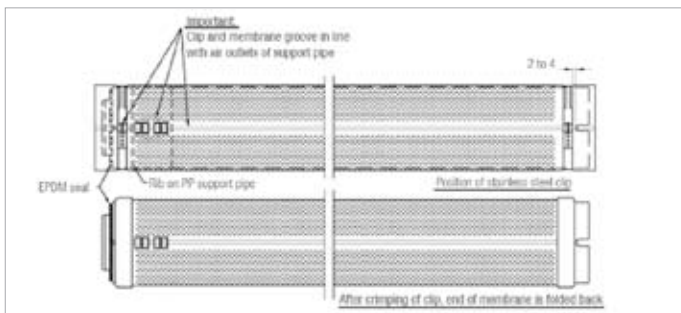

Figure 15: Positioning of stainless steel single ear clip on pipe aerator
3. Clean the PP support pipe. Insert a new membrane onto the PP support pipe and align it in such a way that only non-perforated membrane section is positioned over the air outlet openings. To secure the membrane firmly on the PP support pipe, use only stainless steel single-ear clips that are smooth on the inside. Worm-drive clips must not be used. The single-ear clips must be aligned in such a way that the clip ear is positioned exactly over the membrane groove. One single-ear clip should be located between the small protrusion at the edge of the support pipe and the rib on PP support pipe, next to the air outlet and the other single-ear clip about 2 to 4 mm away from the slots found at the open end of the support pipe. Ensure that the clip does not cover the slots or the perforated section of the membrane. See Figure 15.